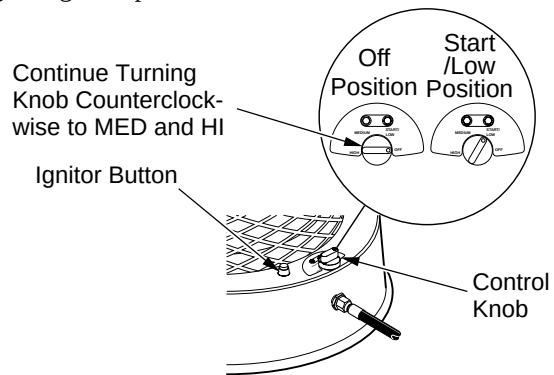

Figure 6 - Control Knob and Ignitor Button Locations for Propane Model TC100VR
5. Slightly depress and turn control knob counterclockwise to the LOW position (see Figure 6 or 7).
8. When burner remains lit, set heater at the desired heat level by slightly depressing the control knob and turning it counterclockwise to the MED or HIGH settings (see Figure 6 or 7). **Note:** The emitter glows red on the HIGH setting only.